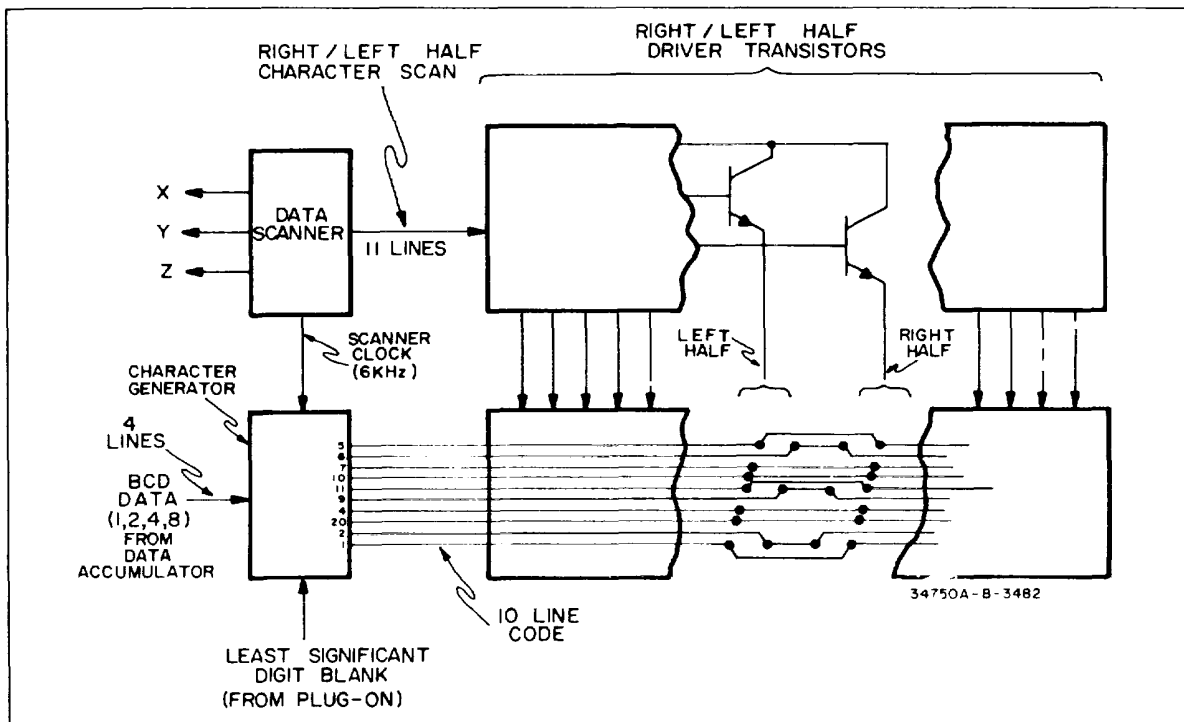

Figure 4-11. Data Display Circuits.
**4-25. Data Display and Control Circuits (Refer to Figure 4-11).**